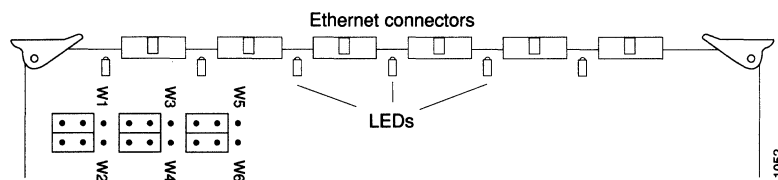
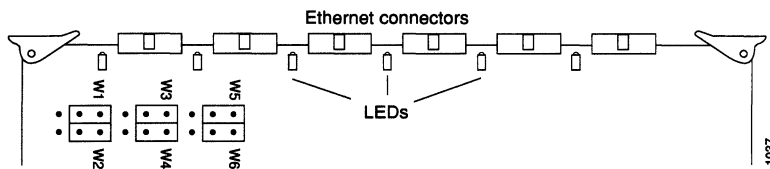

Figure 5-23 Jumper Settings for Ethernet Version 2 and IEEE 802.3
Figure 5-24 Jumper Settings for Ethernet Version 1
- Step 3:** Check that the jumper settings are correct. Figure 5-23 shows the default jumper settings, which are correct for operation with IEEE 802.3 and Ethernet Version 2 specification transceivers. To connect Ethernet Version 1 specification transceivers, you must change the jumper setting as specified in Figure 5-24.
Figure 5-24 shows the appropriate jumper settings to use when you attach Ethernet Version 1 cables to the Ethernet connector. Figure 5-23 shows the appropriate jumper settings to use when you attach Ethernet Version 2 and IEEE 802.3 cables to the Ethernet connector.
Jumpers on pin sets W1 through W6 set the electrical specifications for the Ethernet transceiver connection. Each jumper is moved right one pin, as shown in Figure 5-24 to change the electrical specifications of its corresponding connector. Pin set W1 corresponds to the far left connector when using the orientation seen in Figure 5-24 (facing the component side of the card with the connectors at the top). Each connector corresponds consecutively to a pin set, moving right to left. These designations do not correspond to the unit numbers assigned to each Ethernet port by firmware; that process is described in the section “Unit Numbering,” earlier in this chapter.